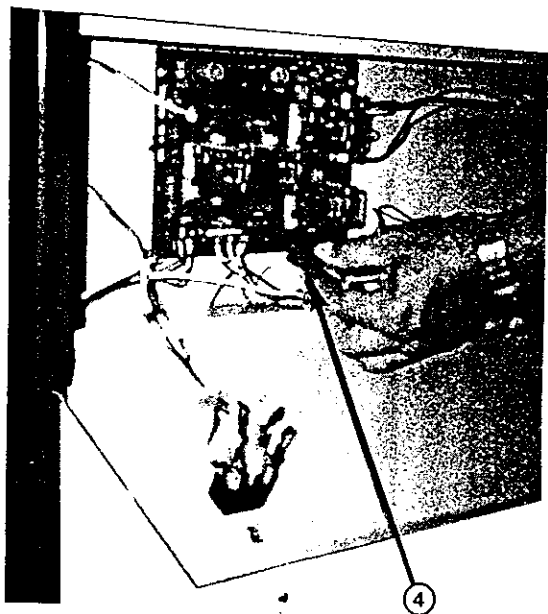

Figure 2.1.
STEP 2.1: Check motor contact J1 on board [4], see Figure 2.1.